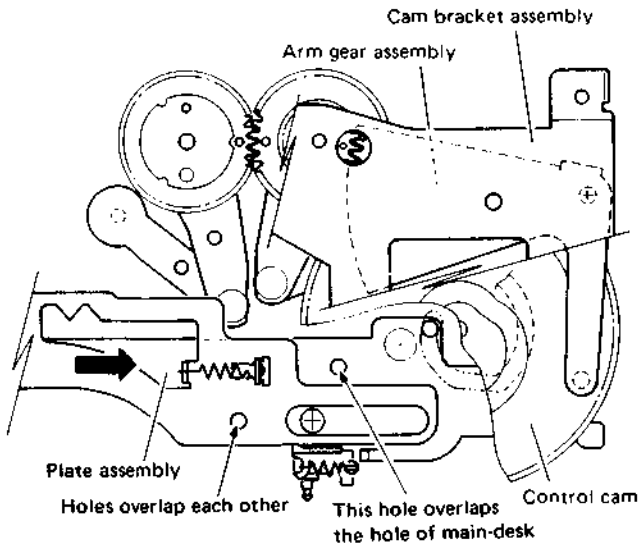

Fig. 1-3-4 Cam bracket assembly
1. Push and hold the plate assembly so that the hole of the plate assembly overlaps the hole of the main-deck, as shown in Fig. 1-3-4.
1. When the hole of the plate assembly overlaps the hole of main-deck, refer to Fig.1-3-4, confirm that the V-cut of the slider section just overlaps the V-cut of the outer section of the mode select switch.